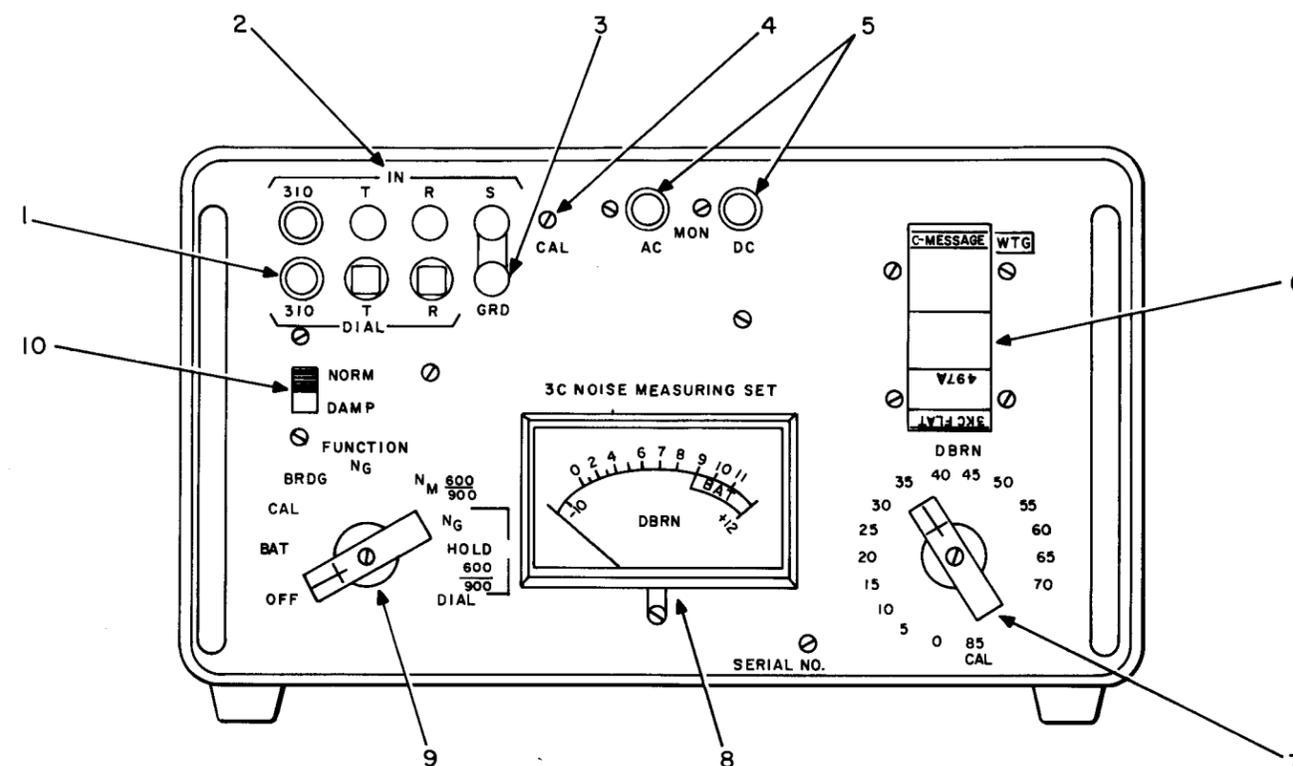

Fig. 4-12—3C Noise Measuring Set
**3C Noise Measuring Set (Fig. 4-12)**
**4.96** As shown in Fig. 4-12 the 3C has a somewhat different input arrangement. Instead of two jacks, the 3C has only one which accepts a 310-type plug. The binding posts are marked T, R, and S and are connected into the tip, ring, and sleeve of the input jack.
**4.98** Below the damping switch is the FUNCTION switch, which selects the proper input circuitry, and allows checking the battery, calibrating the set and dialing and holding. (See Fig. 4-12 for details on these functions.)